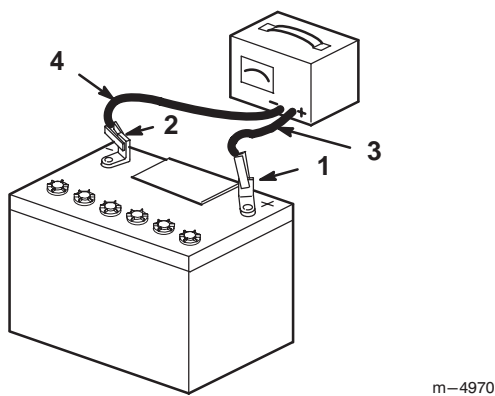

Figure 27
5. When the battery is fully charged, unplug the charger from the electrical outlet, then disconnect the charger leads from the battery posts (Fig. 27).